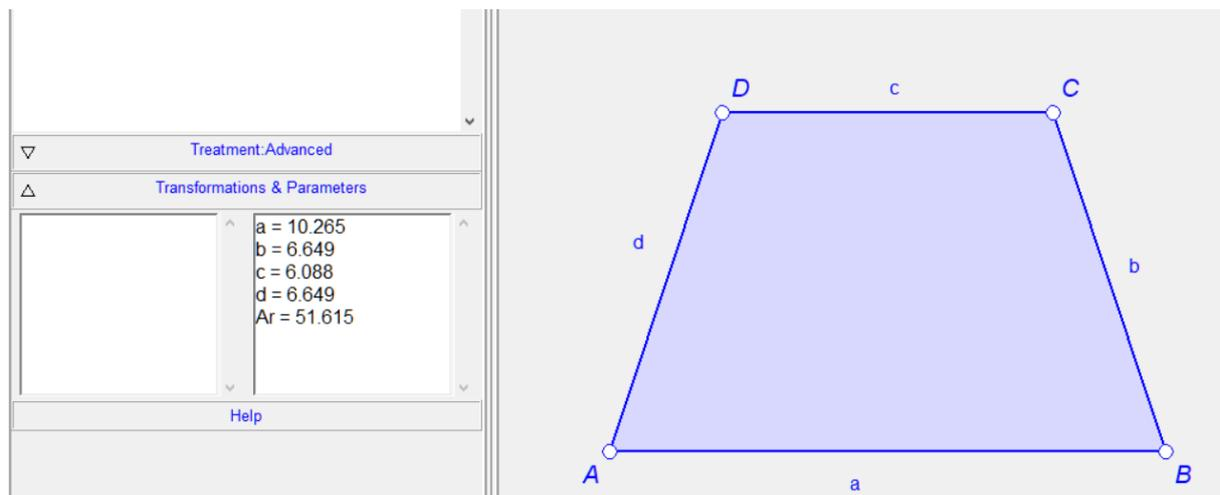

Figure 29
2. Measure the potentially relevant geometric quantities in the Sketch Editor. You can use the commands *Number/Distance*, *Number/Radius*, *Number/Length* or *Number/Area*. In our case we have measured the sides a, b, c, d and the area Ar (Figure 29).
3. Apply the command *Command/Observe formulae/Simple*. A form appears. In the list of measured quantities, select the ones you think are relevant. In our case we have selected all of them. Then click the **Observe** button (Figure 29, left).